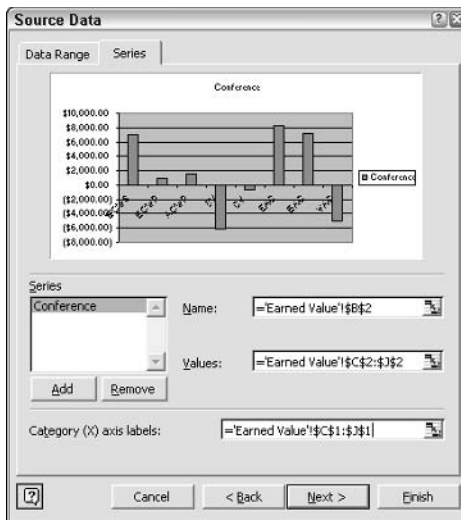

Figure 14-16: The Series tab after you have selected X-axis labels.
7. Click the Collapse Dialog button at the right of the Category (X) axis labels box.
9. Click the Collapse Dialog button to redisplay the Chart Wizard. The Series tab should look similar to the one shown in Figure 14-16.